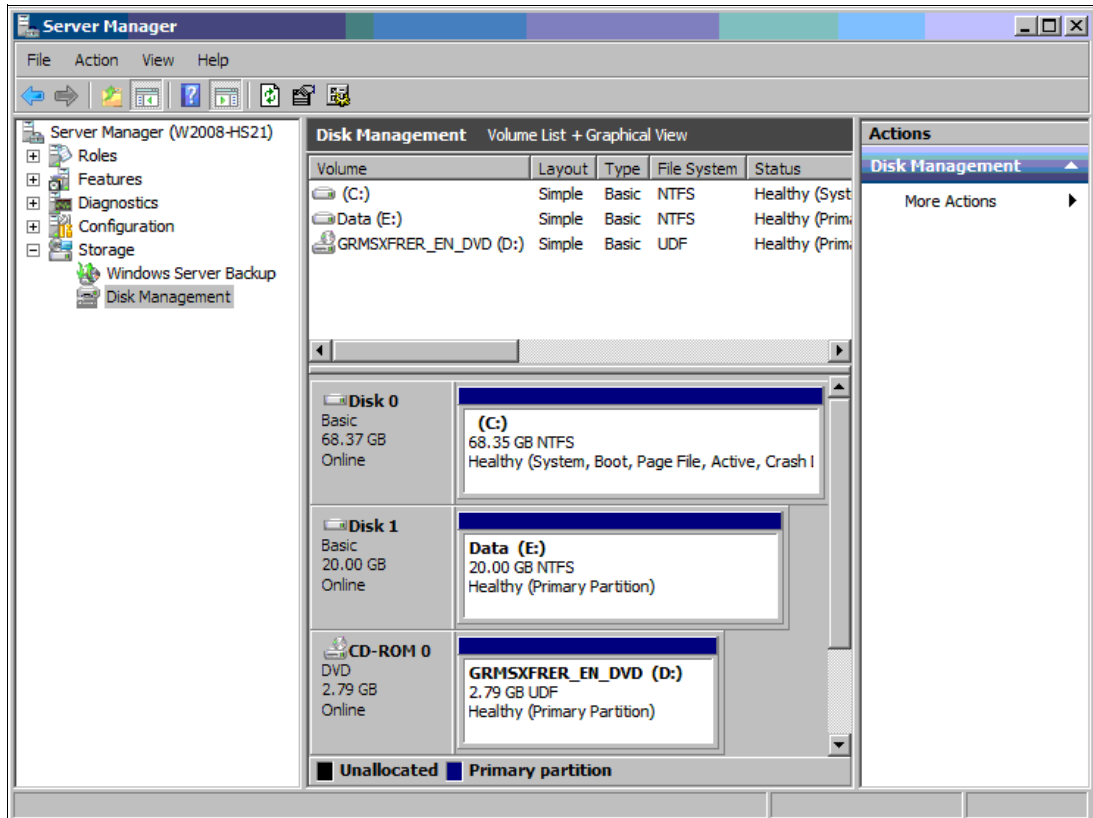

Figure 18-18 New partition on the logical drive
- Follow the process under guidance of the wizard to define the partition size, drive letter, file system, and volume label. The partition will be created and formatted. The Disk Management applet now displays the new partition (allocated drive E) that is ready to be used (see Figure 18-18 on page 553).